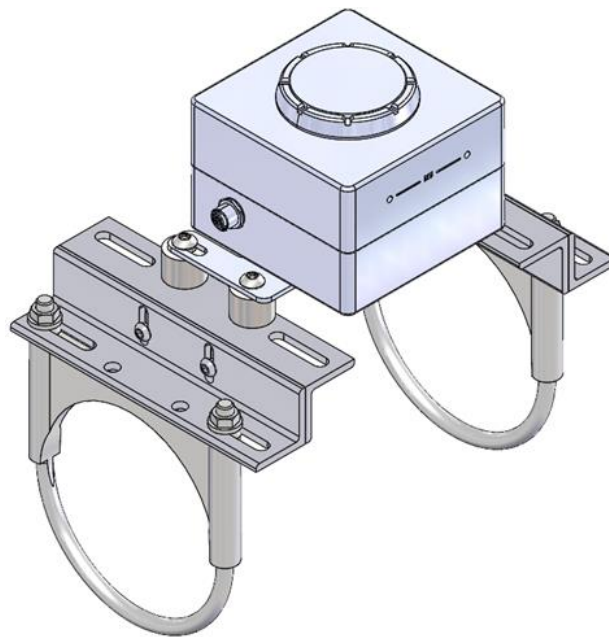

Figure 6: Complete Assembly (Round Torque Tube)
- Round torque tubes, use the #20462 mounting assembly, with #15848 U-bolts and provided flange nut, assembled as shown in *Figure 6*. Tighten using a 9/16" wrench or socket.